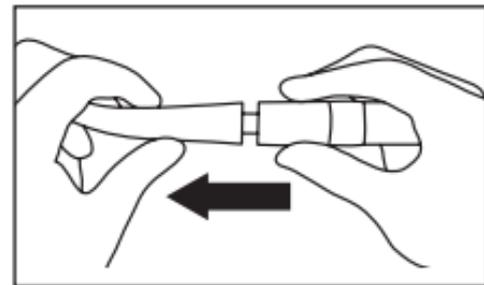

Fig. 13
- 7) Remove the handpiece from the motor (Fig. 13).